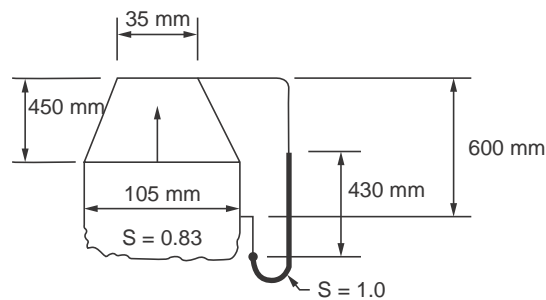

Figure E. 6.16
- E 6.16.** Determine the flow rate of a fluid of specific gravity 0.83 upward in the set up as shown in Fig. E. 6.16.